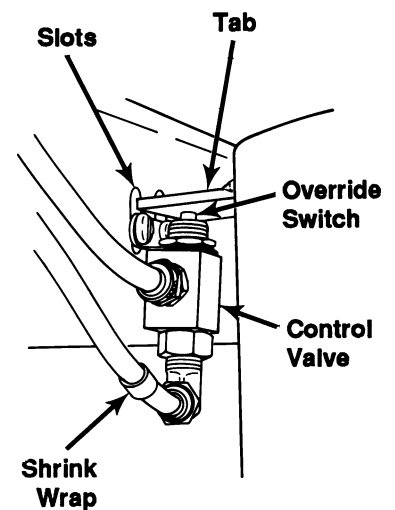

Figure 1
2. Remove the nuts and ferrels from the two air fittings on the control valve. Slide one nut and ferrel onto the **air hose marked with shrink wrap**, and insert that hose into the **90° fitting** on the bottom of the control valve. Holding the hose snug against the fitting, tighten the nut to crimp the hose to the fitting. See Figure 1. Slide the other nut and ferrel on the other air hose, and insert that hose into the straight fitting on the side of the control valve. Tighten the nut.